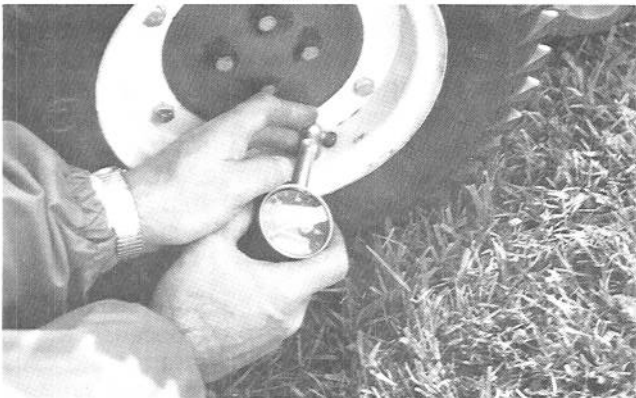

Figure 11
2. Height-of-Cut — To determine the effective height-of-cut, the length of the grass to be cut must be checked. Height-of-cut should be set and turf mowed frequently so no more than 1/3 of the leaf is cut off. If mower is equipped with pneumatic tires, pressure must be maintained at 35 psi (Fig. 11). Low tire pressure can cause bedknife to dip into the grass and scalp the turf. An uneven cut will likely result.